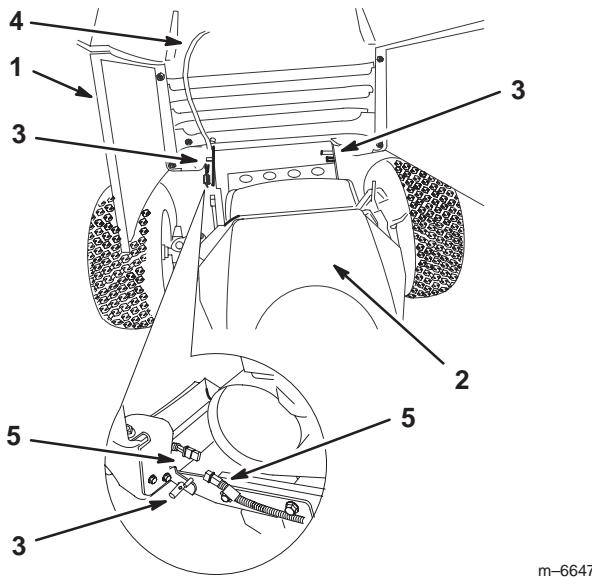

Figure 31
1. Rotate the hood fully forward (Fig. 31).
2. Disconnect the wire harness at the front left of the machine. The harness leads up to the head lights (Fig. 31).
3. Slide the hood to the left side of the machine and off of the pivot pegs (Fig. 31).
4. To install the hood, install the hood onto the pegs and connect the harness (Fig. 31).